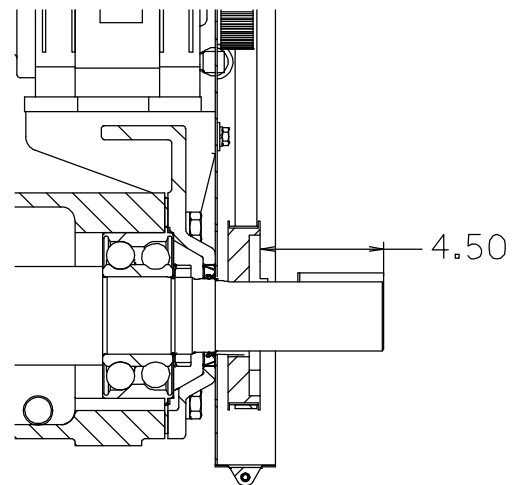

Figure 6. Drive Sprocket Positioning
Install the key (36) in the shaft keyway, making sure to leave room in the keyway for the drive key (29, Figure 2). Install the bushing (35) and sprocket (34) on the shaft to the dimension shown in Figure 6.